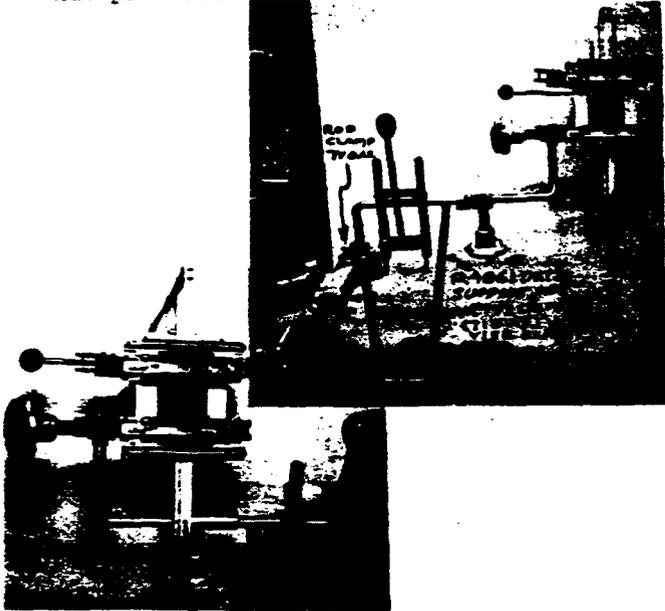

FIG. 10 MOUNTED R4861 TOOL
3.245 The tool mounts on the central office rolling carrier with the aid of R-4773 DET 1 (or 710A5) universal vise clamp, R-4861 DET 2 support rod and (710A2) Rod Clamp. (See Fig. 10). The support rod comes in two pieces and must be securely locked together by bolt and nut provided.